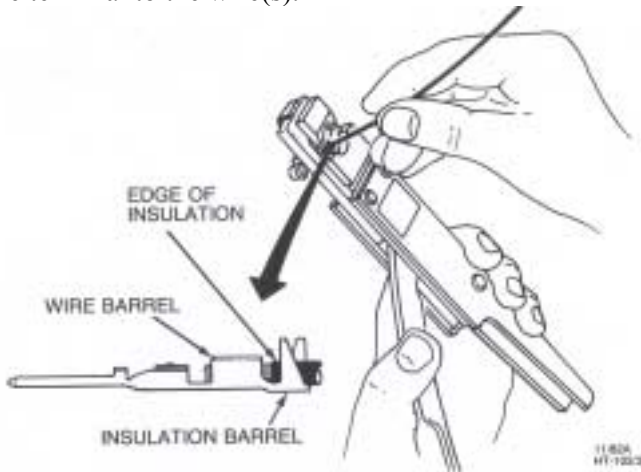

Figure 3. Crimping Terminal to Wire
3. While grasping the lever and the handle portion of the frame, insert a wire so that the end of the insulation is centered between the wire barrel and the insulation barrel of the terminal (see Figure 3). An alternate method is to position the end of the insulation against the tonker (see Figure 13, item no. 2) which protrudes from between the crimpers (3 & 4). Then close the hand tool lever completely. This will crimp the terminal to the wire(s).